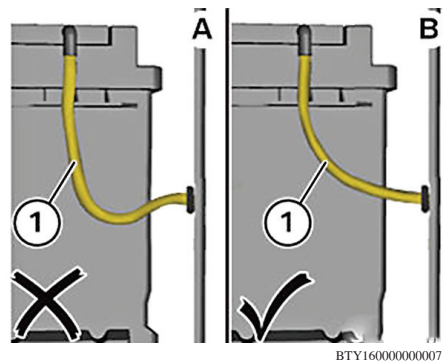

Fig. 5 Battery vent installation routing
3. Always route battery vent line (1) at a downhill gradient outward to prevent
- any siphoning action, **Fig. 5**.